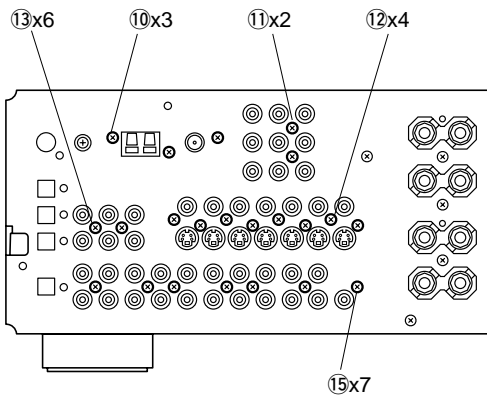

Fig. 4
- b. Remove 3 screws (10) and then remove the AM/FM Tuner in Fig. 4.
- c. Remove 2 screws (11) and then remove the Operation (5) P.C.B. in Fig. 4.
- d. Remove 4 screws (12) and then remove the Operation (3) P.C.B. in Fig. 4.
- e. Remove 7 screws (13 and 14) and then remove the Operation (2) P.C.B. in Fig. 4 and 5.
- f. Remove 8 screws (15 and 16) and then remove the Input (1)/(2) P.C.B. in Fig. 4 and 5.